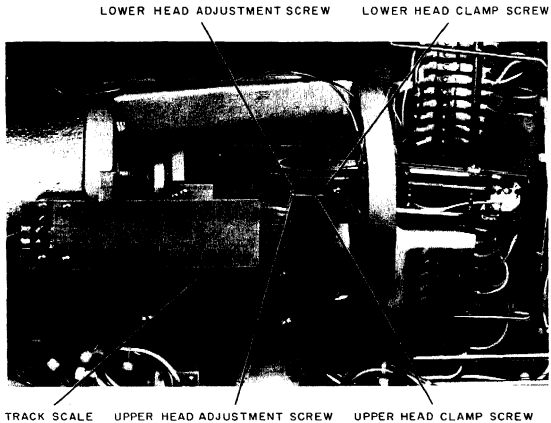

Figure 10
- e. Loosen the clamp and adjustment screws (Figure 10) and move the head in the appropriate direction until the "right on" waveform is obtained and the scale indication is slightly greater than 105.